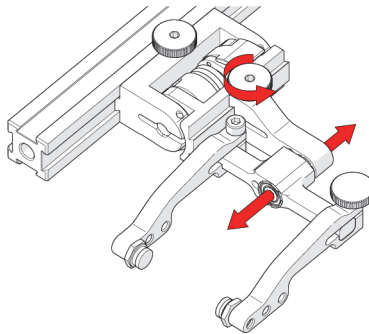

Figure 2-26 Swing arm adjustment
3. Use the swing arm knob to position the swing arm (see Figure 2-26 on page 55).
The swing arm is typically used to adjust TOFD center-to-center distance relative to the phased array probes on a four probe configuration (see Figure 2-26 on page 55).